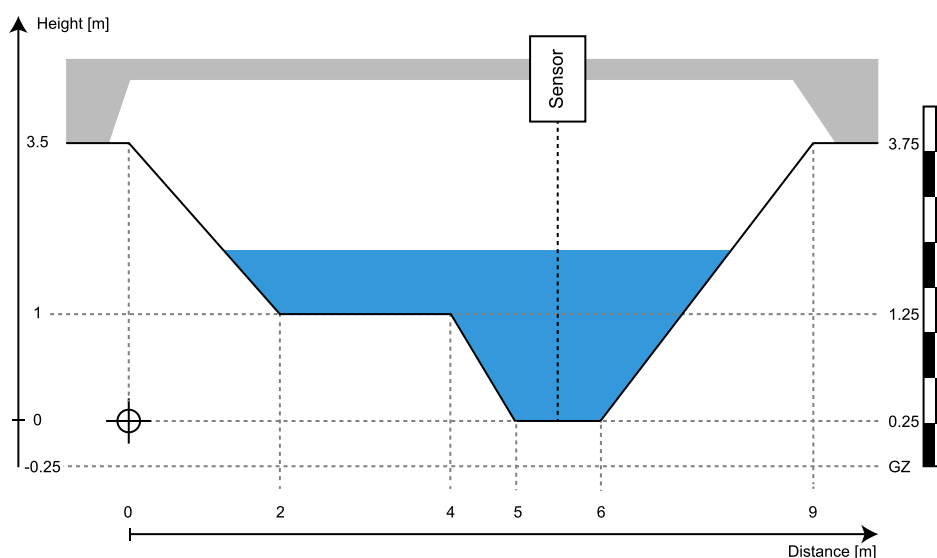

Figure 10 Gauge zero (GZ) of a gauge plate in reference to a channel profile
If a water level measurement is already present at the measurement site, i.e. gauge plate or gauge sensor, it is recommended to use the gauge zero (GZ) of the existing measurement as the reference level. This level is usually unique and defined permanently. Moreover, consistency in the existing water level measurement and the RQ-30 measurement simplifies interpretation. As illustrated in Figure 10 the level of the gauge zero has to be known in the reference system.
In the example shown in Figure 10 gauge zero is at -0.25 m in the reference coordinate system of the cross-Section H.